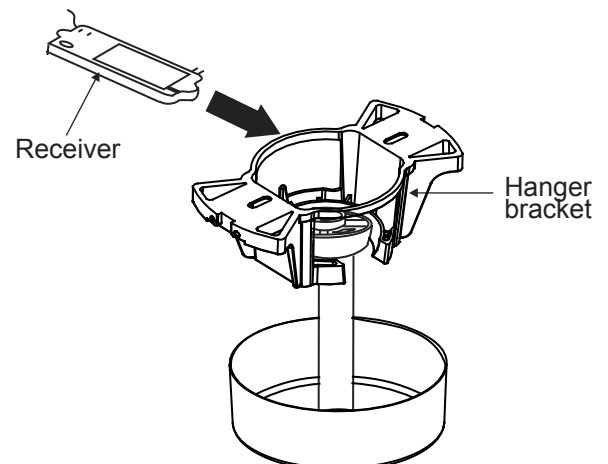

Fig. 14
**Step 1.** Insert the receiver into the ceiling mounting bracket with the flat side of the receiver facing the ceiling. (Fig. 14)